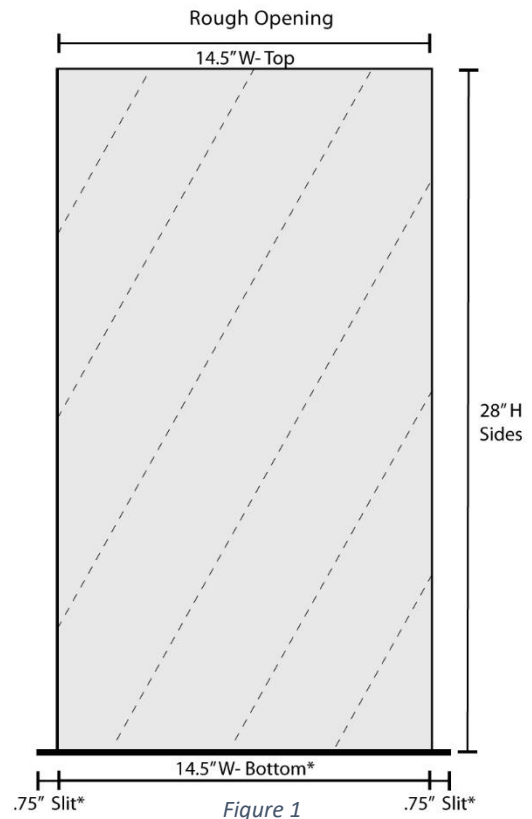

Figure 1
2. Once step 7 is complete, there will be Rough Opening to partially recess the IW25-4 through the wall. Insert the Exterior Sleeve into the Rough Opening. Make sure the pop-out for drain/power are at bottom of unit. (Figure 1)